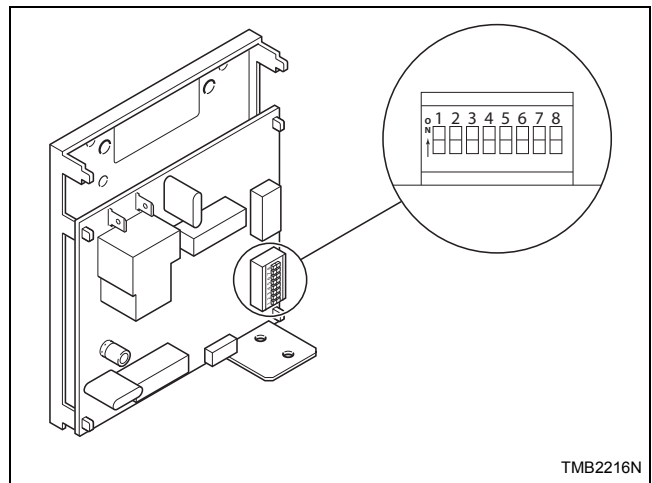

Figure 41
2. Write down machine control dip switch settings, then set them all to the off position. Refer to *Figure 41*.